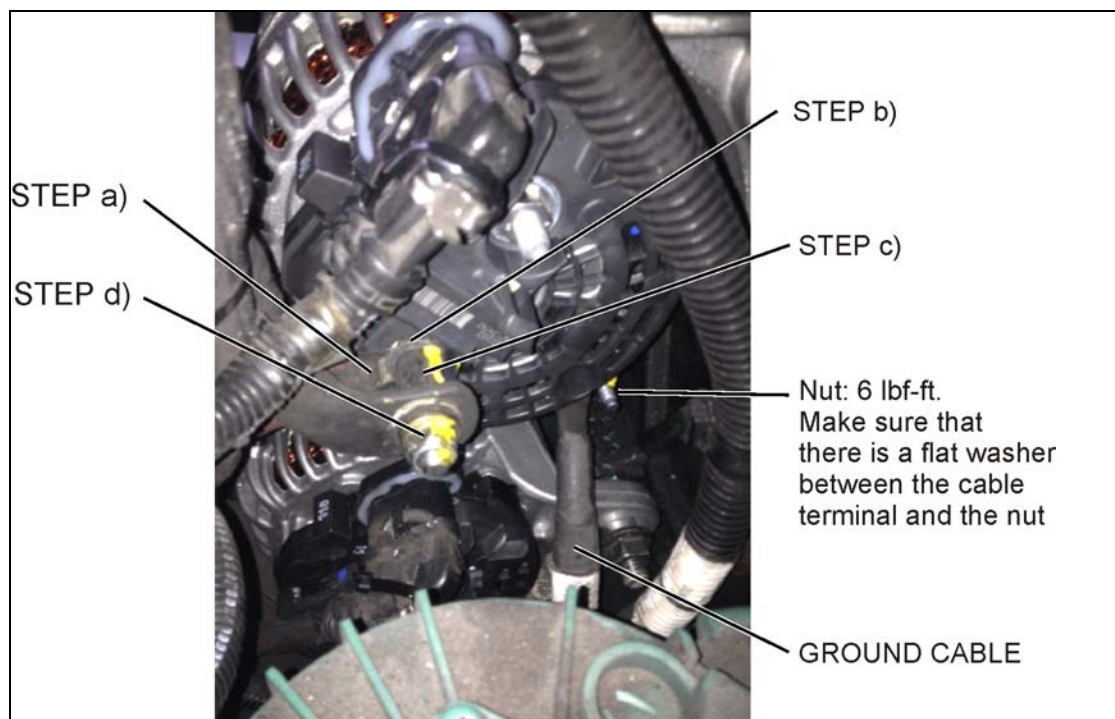

FIGURE 28
- Install jumper cable (a.k.a. positive cable) onto **B1+** stud terminal on upper alternator (FIGURE 28).
- Place one new flat washer #5001341 against the cable ring terminal (FIGURE 28).
- Screw and tighten the adapter stud #060297 (torque: 10 lbf-ft) (FIGURE 28) prior installing power cable.
- Fit the power cable terminal onto adaptor stud, place one new flat washer #5001341 against the power cable terminal and screw a new nut #5001983 (nut torque: 10 lbf-ft) (FIGURE 28).
15. Fit the ground cable onto the alternator ground stud, place one new flat washer #502573 against the ground cable terminal and screw a new nut #5001182 (nut torque: 6 lbf-ft) (FIGURE 28).